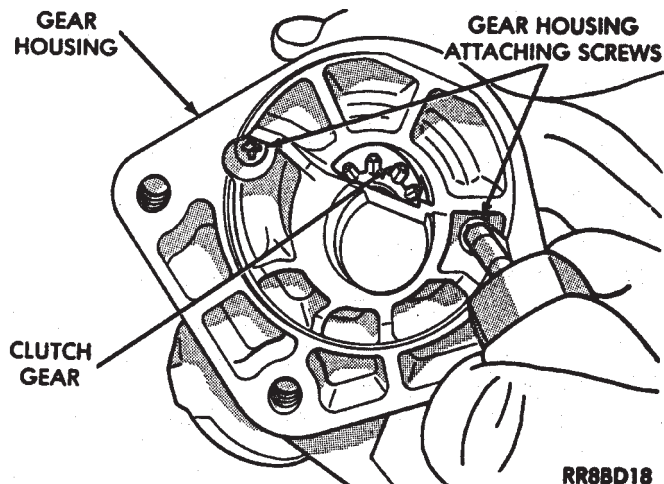
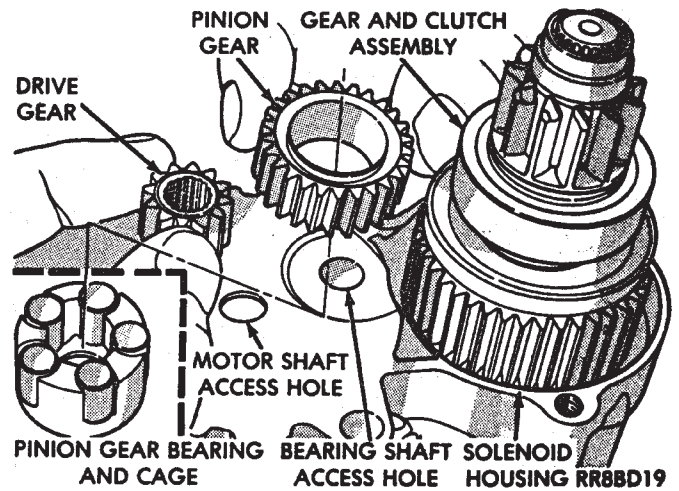
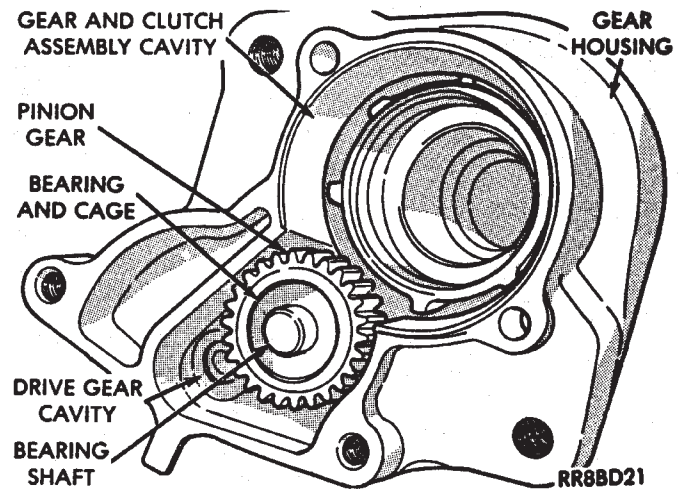

Fig. 10 Remove or Install Gear Housing
Fig. 11 Remove or Install Drive and Pinion Gears
Fig. 12 Lubricate and Install Pinion Gear Bearing
(1) Remove the two gear housing attaching screws and separate the gear housing from the solenoid housing (Fig. 10). The pinion gear, pinion gear bearing, and drive gear will be loose between the solenoid housing and gear housing (Fig. 11). When reinstalling pinion gear and bearing, wipe with a clean rag and coat with lightweight high temperature wheel bearing grease. Place the lubricated bearing and gear over bearing shaft in the gear housing (Fig. 12).